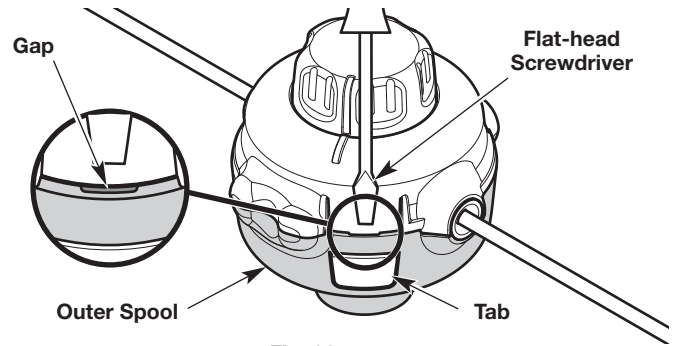

Fig. 26
- a. Firmly press a tab on the cutting head with your thumb (Fig. 26). **DO NOT** press the tab with a screwdriver or other object.
- b. Continue pressing the tab. Insert a flat-head screwdriver into the gap between the outer spool and tab (Fig. 26).